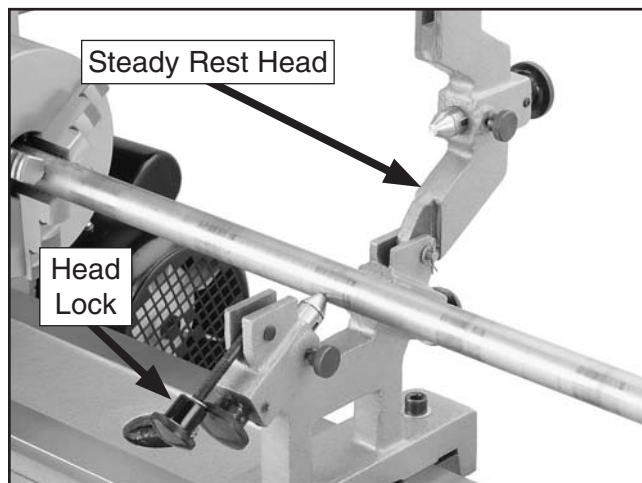

Figure 48. Positioning the workpiece into the steady rest.
3. Loosen the head lock, rotate it down, then pivot the steady rest head up and out of the way (see **Figure 48**).